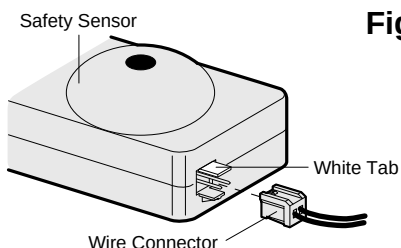

**Figure 6**
- Insert the wire connector into each sensor and push until you hear a click, Figure 6. The white tab on the sensor should be flush with the back of the connector.